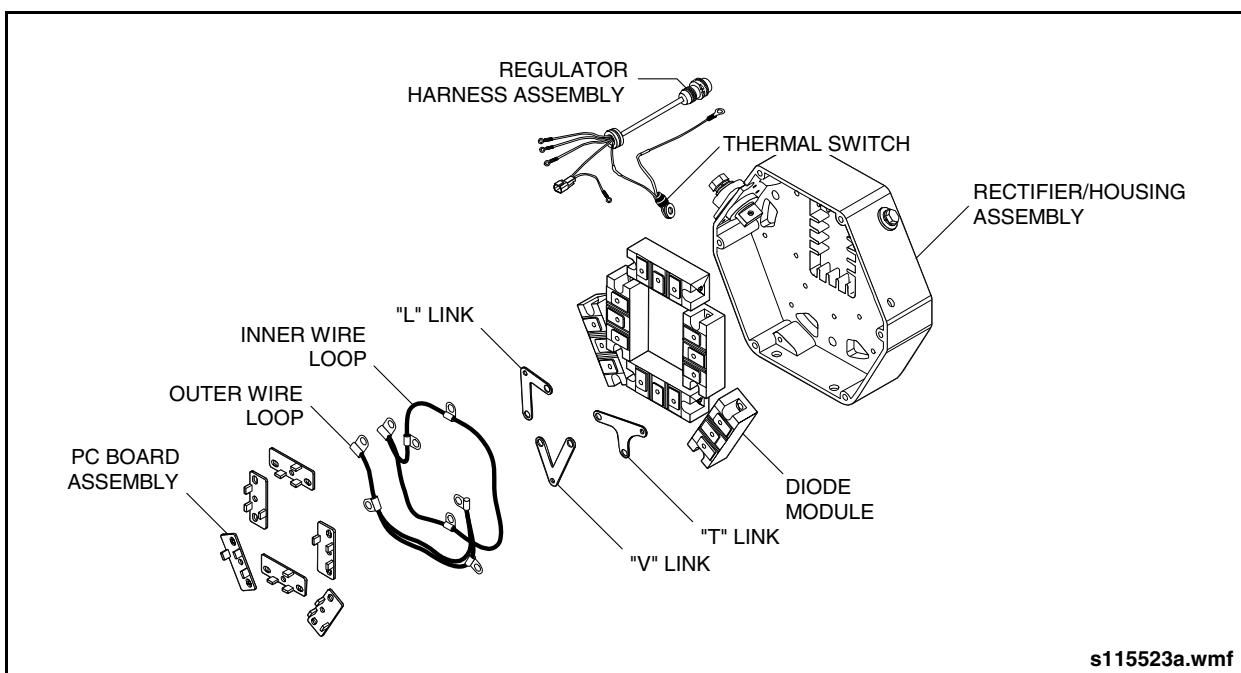

Fig. 9-31: Rectifier/Housing Assembly Component Arrangement
3. Install diode modules and PC boards in correct orientation. Loosely fasten hardware. See "Fig. 9-31: Rectifier/Housing Assembly Component Arrangement" on page 35.